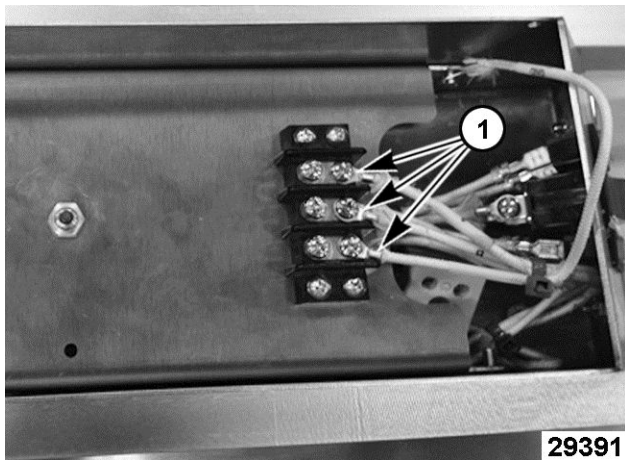

Fig. 26
- B. Note heating element wire locations (1, Fig. 26) and disconnect from terminal strip.